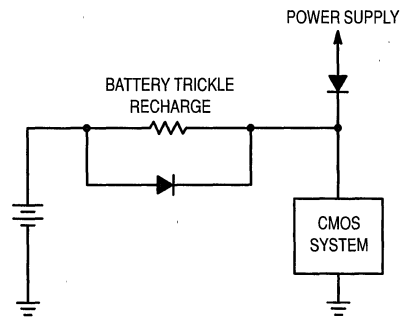

Figure 8. Battery Backup System
1. The recommended power supply voltages should be observed. For battery backup systems such as the one in Figure 8, the battery voltage must be at least 2.7 volts (2 volts for the minimum power supply voltage and 0.7 volts to account for the voltage drop across the series diode).
2. Inputs that might go above the battery backup voltage should use the HC4049 or HC4050 buffers (Figure 8). If line power is interrupted, CMOS System A and Buffer A lose power. However, CMOS System B and Buffer B remain active due to the battery backup. Buffer A protects System A from System B by blocking active inputs while the circuit is not powered up. Also, if the power supply voltage drops below the battery voltage, Buffer A acts as a level translator for the outputs from System B. Buffer B acts to protect System B from any overvoltages which might exist. Both buffers may be replaced with current-limiting resistors, however power consumption is increased and propagation delays are lengthened.